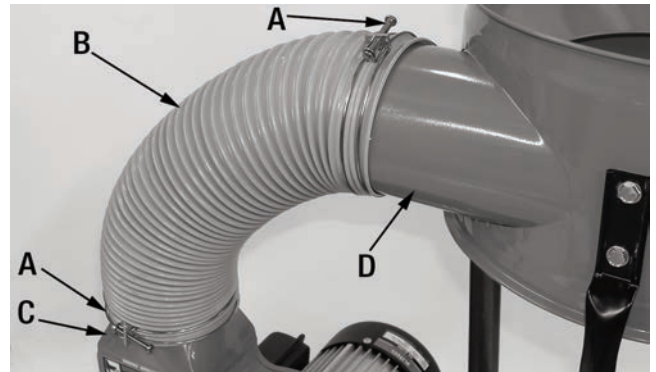

FIGURE 9
7. Slide hose clamps (A) Fig.9 onto each end of the 5" hose (B). Attach hose between the ventilation housing (C) and the filtration housing (D). Tighten clamps to secure hose using a screwdriver.